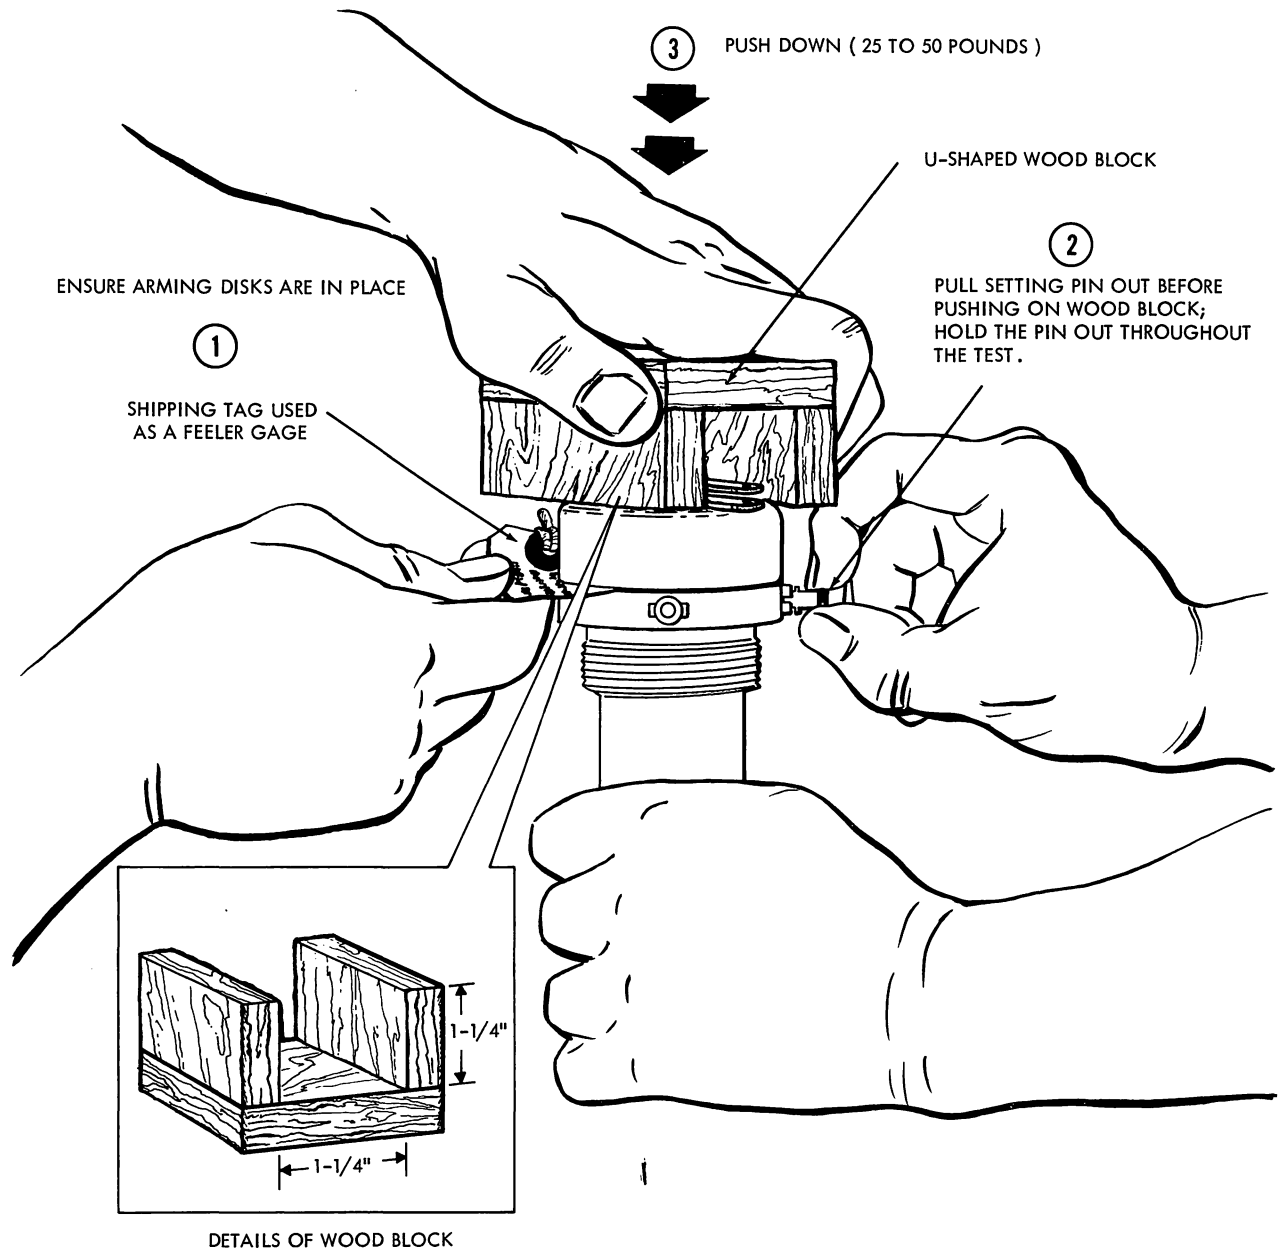

Figure 3-6 Shear Pin Testing Procedure
- b. Set the fuze upright as shown in Figure 3-6. Place the shipping tag in the slot between the vane cap and fuze body flange directly above the shear pin. (The shear pin is located 180-degrees away from the setting pin.)
- c. Using an assistant to pull and hold the setting pin out as far as it will go, press directly down on the top of the vane cup (Fig. 3-6). A wooden tool such as shown in the figure will protect the hand and equalize the pressure. Use 25 to 50 pounds of pressure.